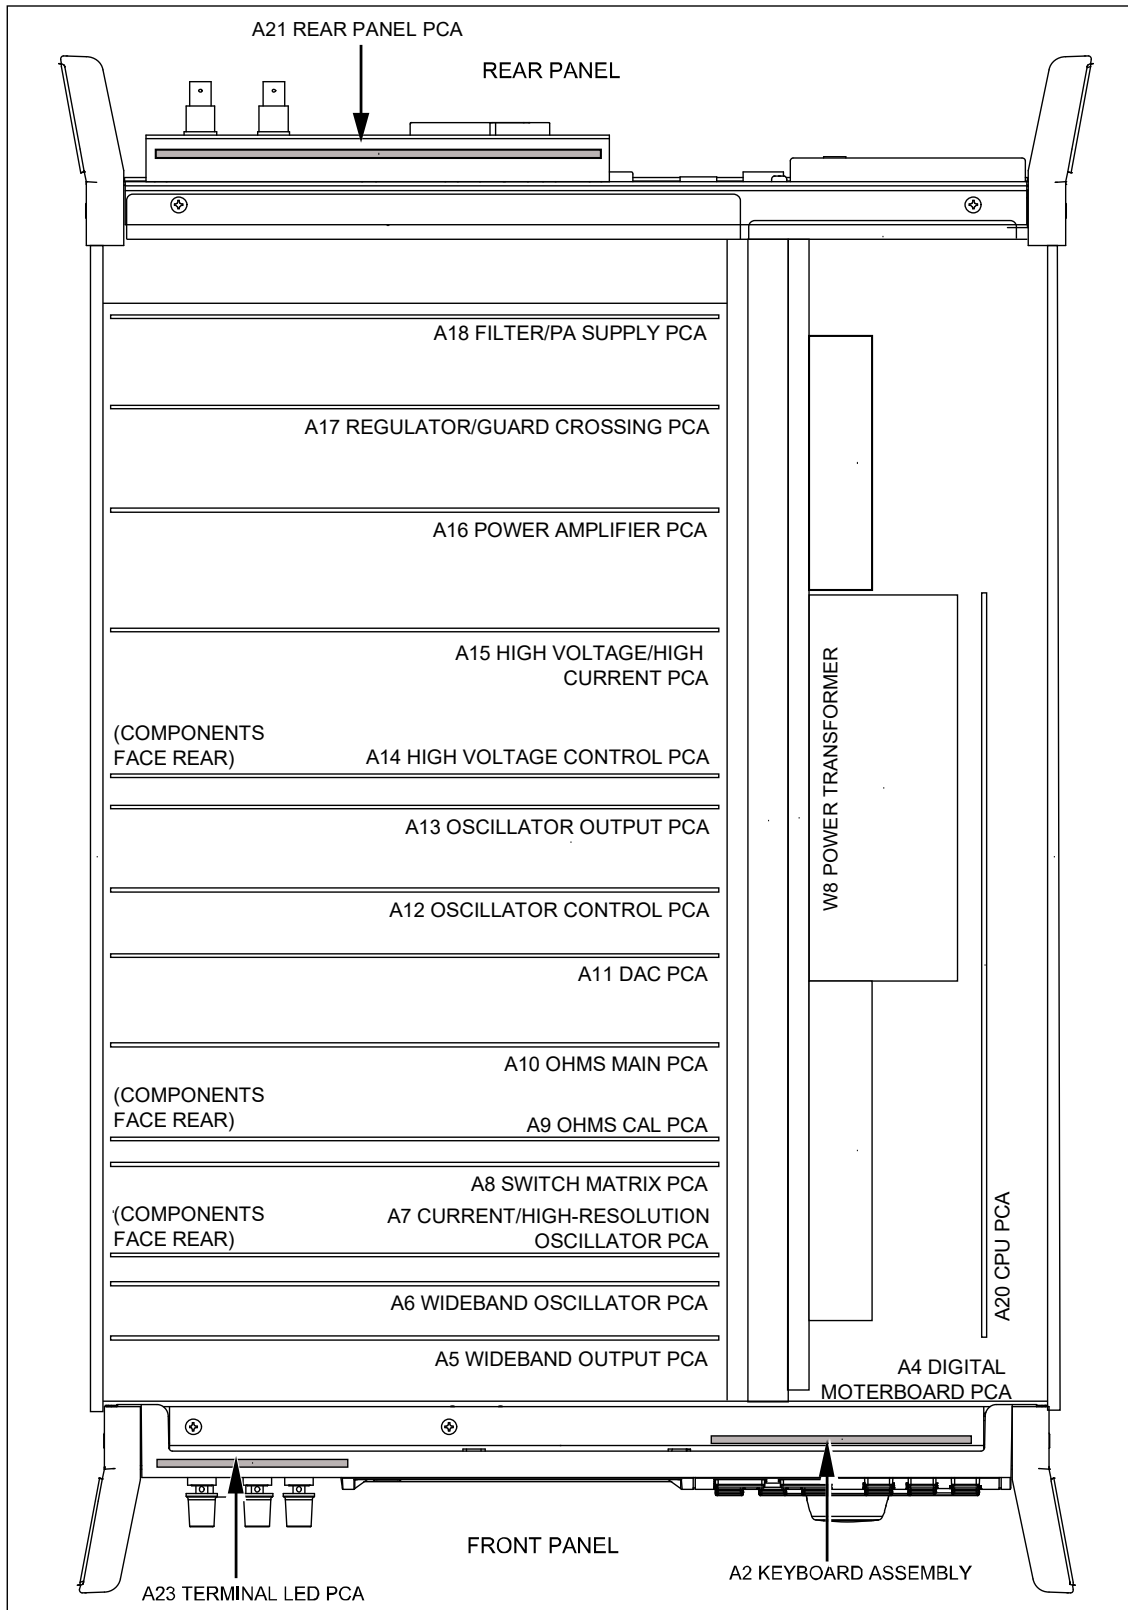

Figure 27. Analog and Digital Assemblies
The analog assemblies are installed as shown in Figure 27. Note that each module cannot be positioned in any other slot and that the identifying information on the tab for each module faces forward. In most cases, the component side of each module also faces forward. The component side faces to the rear for three modules:
To remove the CPU Assembly, pull straight up at the top corners of the assembly. In relation to the chassis side, the CPU Assembly components face toward, and the Digital Power Supply Assembly components face away. See Figure 27.
2. Remove the CPU (A20) assembly, see Figure 27.
4. Working from the bottom of the instrument, remove the Digital Motherboard (A4) assembly, see Figure 27.